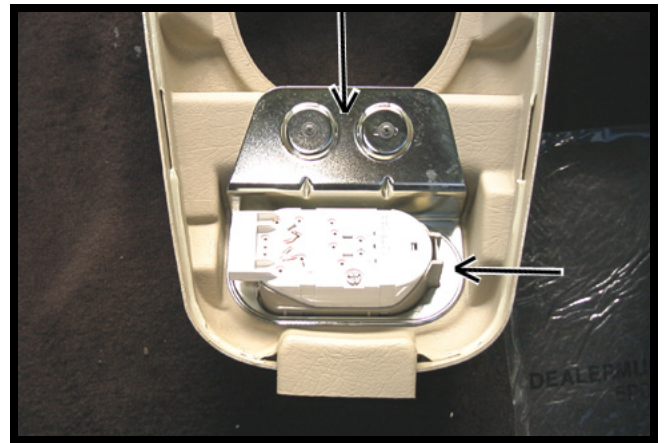

FIGURE 8
9. Install A/C switch into rear of console (item 6 pg2) and O.E. bracket over A/C switch. Make sure control snaps securely into bracket. See Figure 8.
10. Secure bracket to console brace using (2) two # 8 x 9/16" screws (item 1 pg 2). See Figure 8.